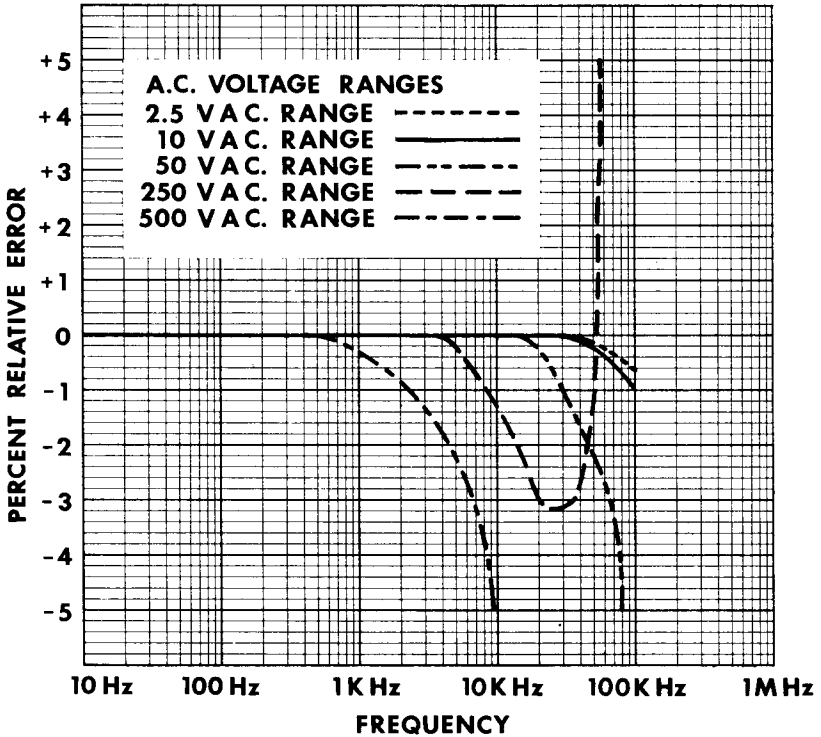

FIGURE 4-2. FREQUENCY RESPONSE, AC VOLTAGE RANGES
4.10.1 The 260 responds to the average value of an AC waveform. It is calibrated in terms of the rms value of a pure sine wave. If the waveform is nonsinusoidal, and depending upon its waveform, the reading may be either higher or lower than the true rms value of the measured voltage. Thus an error may be introduced if the 260 is used to measure a nonsinusoidal waveform. Also, accuracy is lessened at higher input frequencies (Figure 4-2).